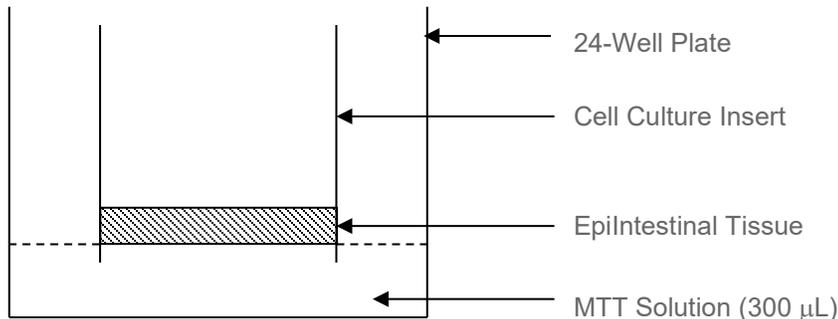

Figure 4: Incubation in the MTT solution (37°C, 95% rH, 3 hours)
g) **MTT loading:** Return the Epilntestinal samples in the 24-well plate to the incubator for 3 hours \pm 5 minutes. See **Figure 4**. *Note: Deviations from the 3 hour time for MTT incubation will result in different readings.*